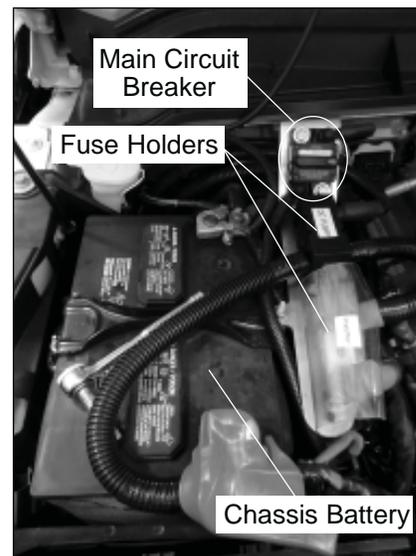

Figure 2 — Battery Connections
1. Locate the chassis battery and disconnect the main circuit breaker (refer to Figure 2). Remove the accessory fuses (for inverter, DC pump, etc.) from the fuse holders on top of the battery.